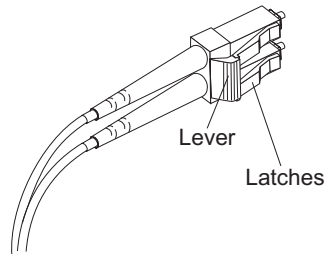

Figure 40. LC-LC fibre-channel cable lever and latches
1. On the end of the LC-LC cable that connects into the SFP module or host bus adapter, press down and hold the lever to release the latches, as shown in Figure 40.